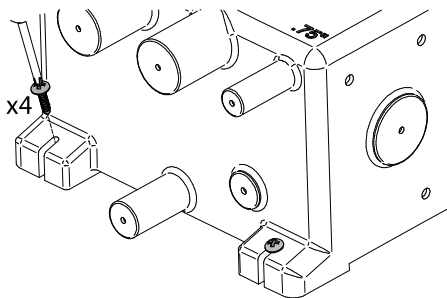
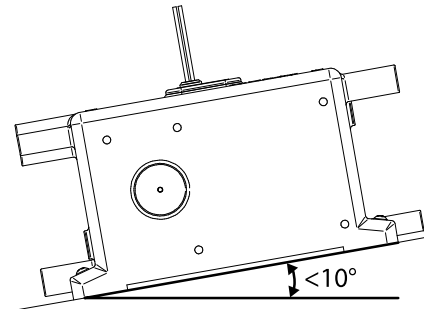

Figure 4 Securing The Tank
Figure 5 Maximum Possible Angle of Installation
- Fig. 4 Securing the Tank
- Fig. 5 Maximum Possible Angle of Installation
Step 2: The tank **must be** secured using 4 appropriate screws, through the feet of the tank as shown in Figure 4. **NOTE:** The angle of the tank **must not** exceed 10° (Figure 5). **NOTE: Do not screw directly to the hull – MUST** be mounted on a bulkhead or an additional board.